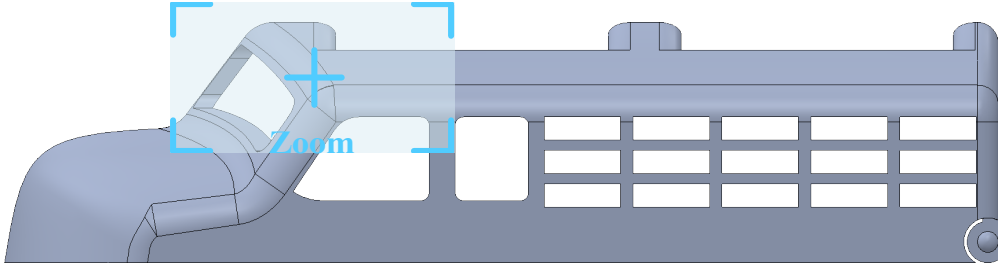

Fig. 100
Step 3. Zoom in on windshield area, **Fig. 100**.